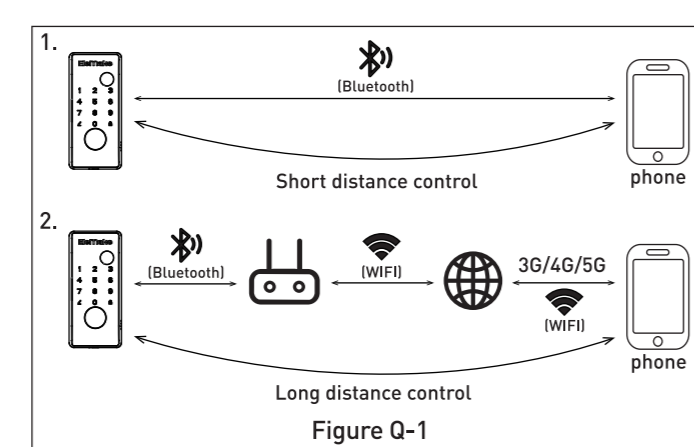

Figure Q-1
(1) Separated WIFI design, No Power consumption to battery for WIFI application. (Figure Q-1)